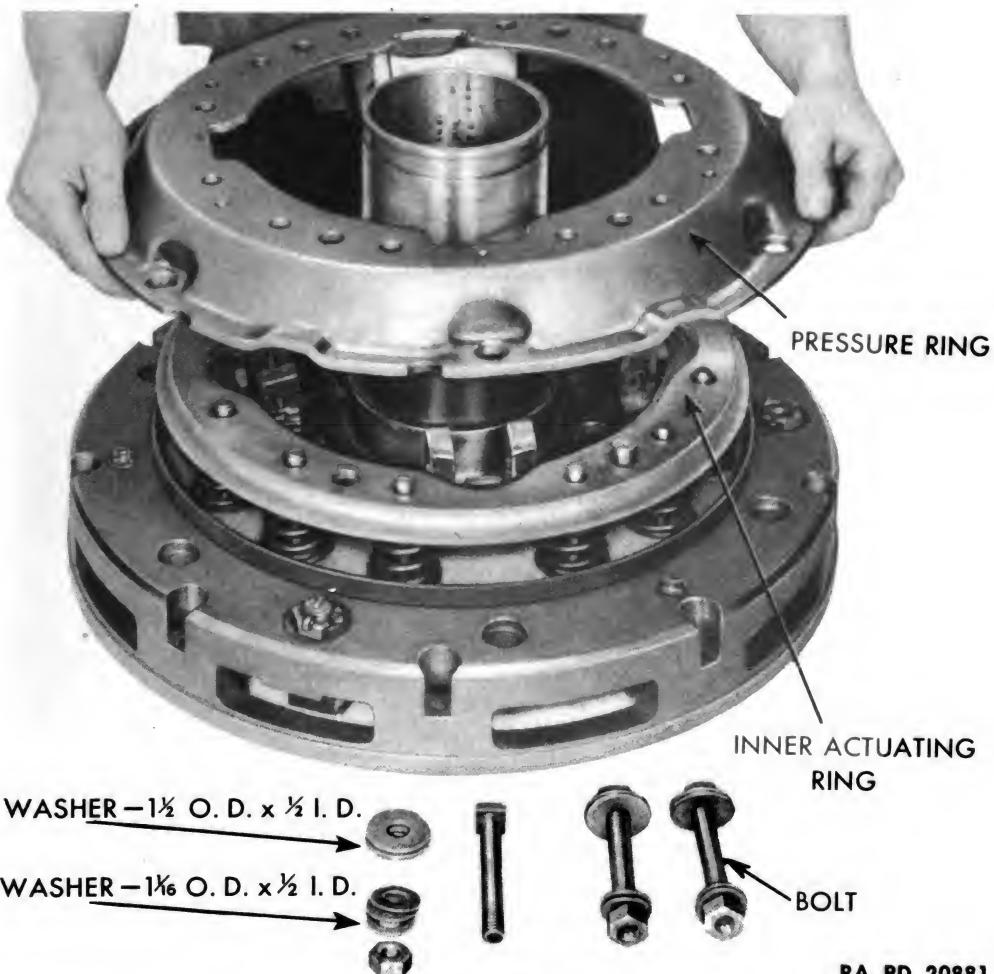

Figure 151 — Removing Clutch Pressure Ring
f. Remove Clutch Pressure Ring and Pressure Springs. Remove three bolts with six flat washers and nuts clamping pressure ring to back plate. Lift pressure ring from inner actuating ring (fig. 151). Lift inner actuating ring from retainer pins and pressure springs (fig. 152). Remove 12 pressure springs from retainer pins and pressure ring spring retainer. Remove pressure ring spring retainer from back plate, and remove 12 spring retainer pins.
c. **Install Pressure Ring and Cam Levers** (figs. 150 and 151). Place pressure ring on inner actuating ring so that inside slots line up between cam lever supports on back plate (fig. 151). Use three cap screws ($\frac{1}{2}$ -20 NF-2 x $3\frac{3}{4}$ with $3\frac{5}{8}$ thread length), three nuts ($\frac{1}{2}$ -20NF-2) (BBBX1E), six heavy plain washers ($\frac{1}{2}$ I.D. x $1\frac{1}{2}$ O.D.), and nine plain washers ($\frac{1}{2}$ I.D. x $1\frac{15}{16}$ O.D.) (BEBX1M), to compress pressure springs. NOTE: *Transmission oil cooler stabilizing bolt (A331641) can be used for this purpose.* Place two large washers on bolts, and insert bolts through pressure plate stud holes in back plate and through pressure ring, with bolt heads on inside of plate. Place three small washers on bolts. Install nuts on bolts, and tighten them until pressure ring contacts back plate. Place four cam levers in position between supports on back plate, and install pins and cotter pins (fig. 150). Insert pins so that they all point in same direction, and with flat side on head against shoulder in support to prevent them from turning.